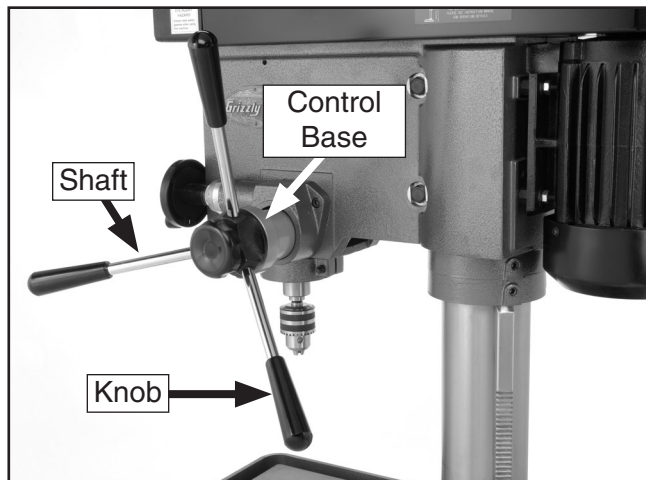

Figure 10. Rapid downfeed handles installed in control base.
2. Screw the resulting handle assembly into the threaded holes on the rapid downfeed control base (see **Figure 10**).